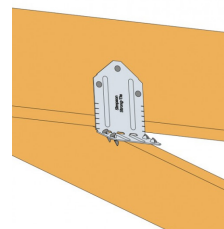

Fig 3: VTOR - View showing correct fastener installation into supporting truss
- Note: when the supporting truss is 35mm thick, a portion of the nails will be exposed before penetrating into the side of the truss (Fig 3)